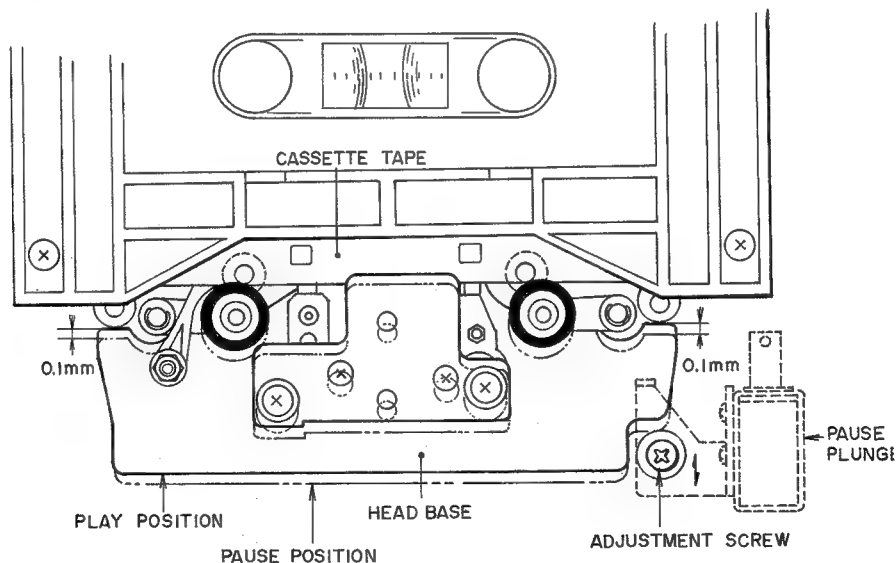

Fig. 11
4. PAUSE PLUNGER INSTALLATION POSITION ADJUSTMENT (Refer to Fig. 11)
much, the head base should lower only 0.1mm (lower only slightly) when the mode is changed from PLAY to PAUSE as shown in Fig. 11.